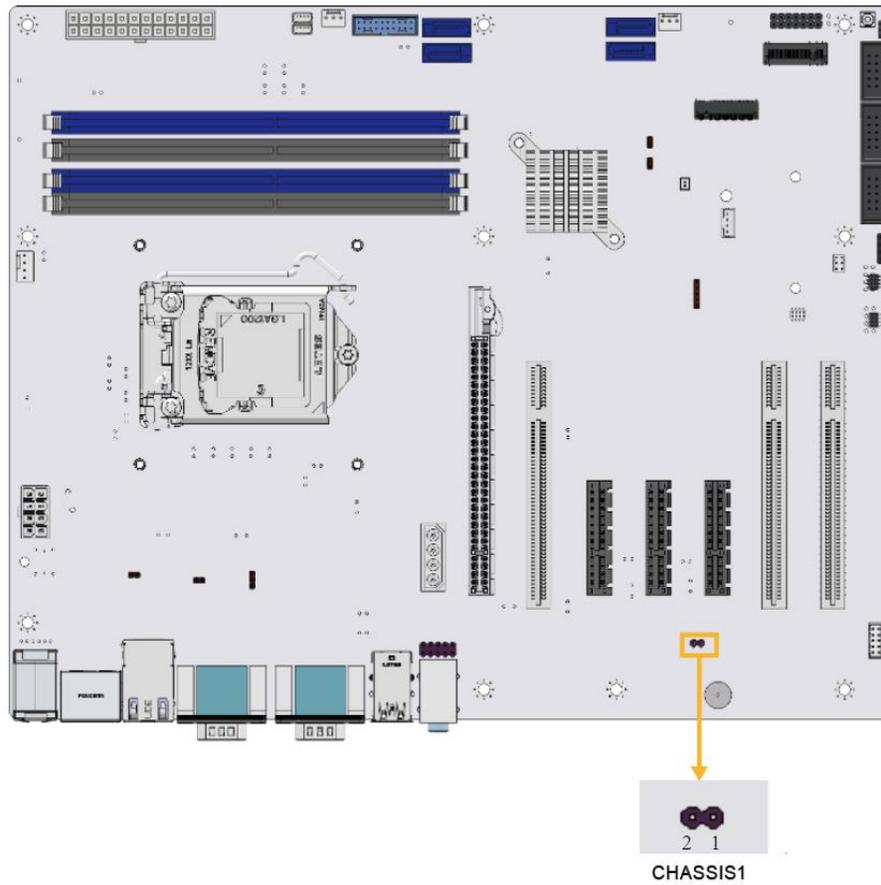

Figure 3-6: Chassis Intrusion Connector Location
- CN Location:** See **Figure 3-6**
The AT/ATX power mode selection is made through the AT/ATX power mode switch which is shown in Figure3-6.